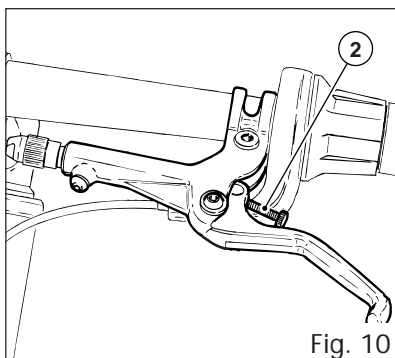

Fig. 10
- adjust the desired lever action by turning screw (2, fig. 10) when turning this screw the brake pads move closer to the disk or farther away from the disk.